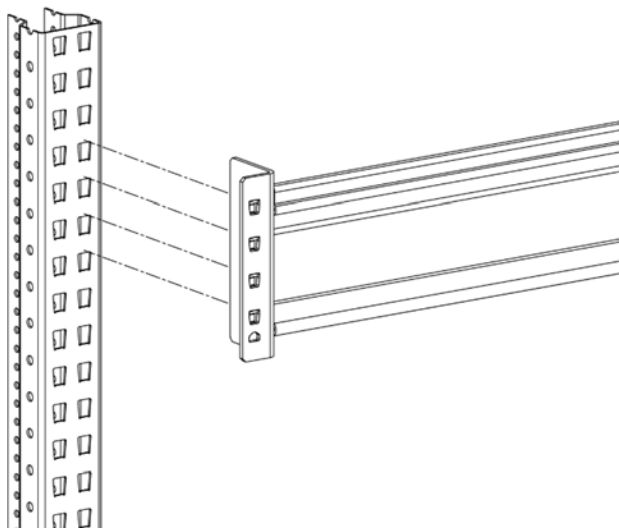

Fig. 7
4. Placer les supports. (fig. 7)